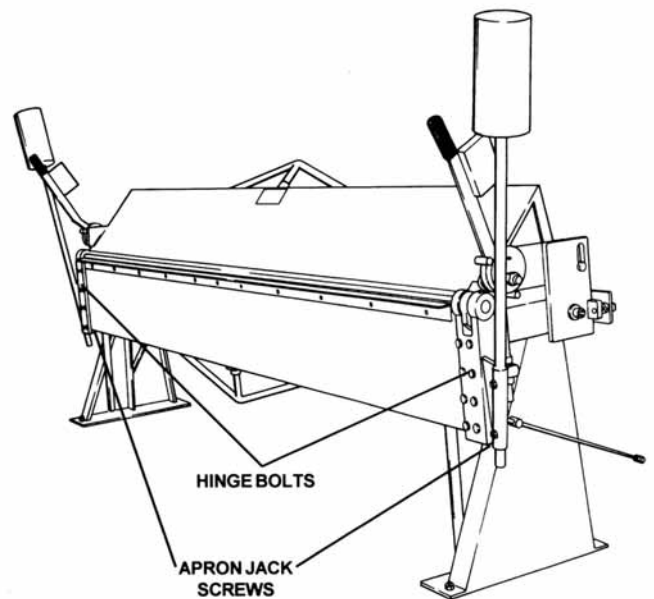

Figure 13. Apron Adjusting Components
4. Check the top edge of apron in relation to the top surface of the bed. The top edge of apron must be 1/64-in. below the top surface of the bed at each end. If not, loosen the hinge bolts and adjust the apron up or down using the apron jack screws (see Figure 13). After the apron edge is adjusted to the proper position, be sure to retighten the hinge bolts.